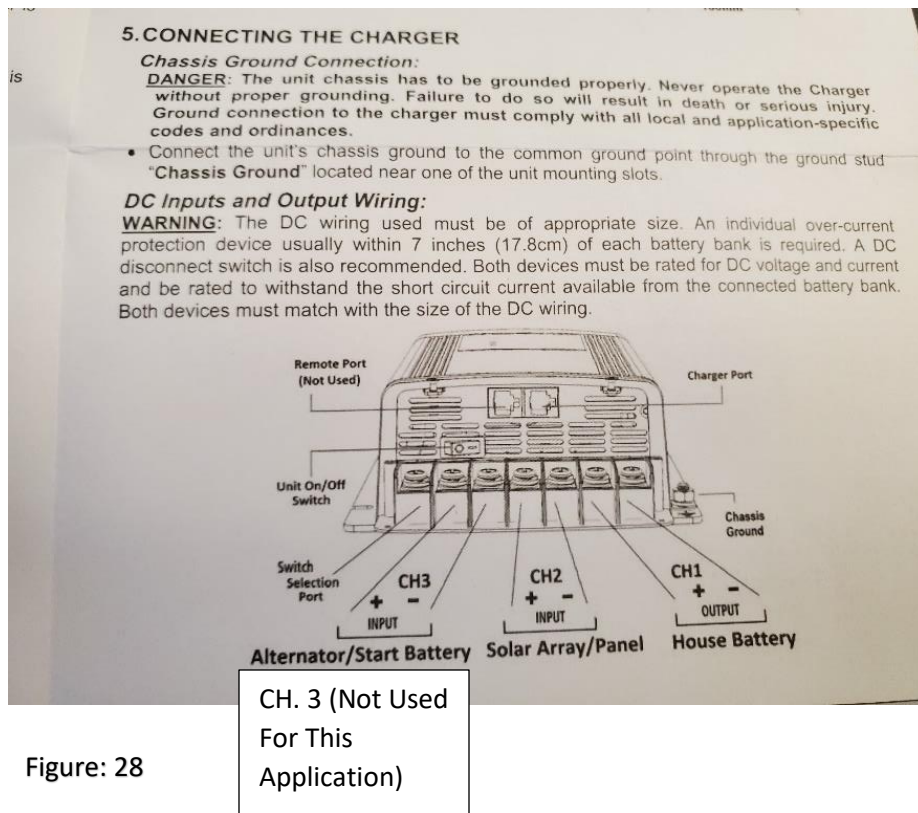

Figure: 28
10. Solar controller wiring connection configuration shall be as shown in below wiring diagram Figure 28.